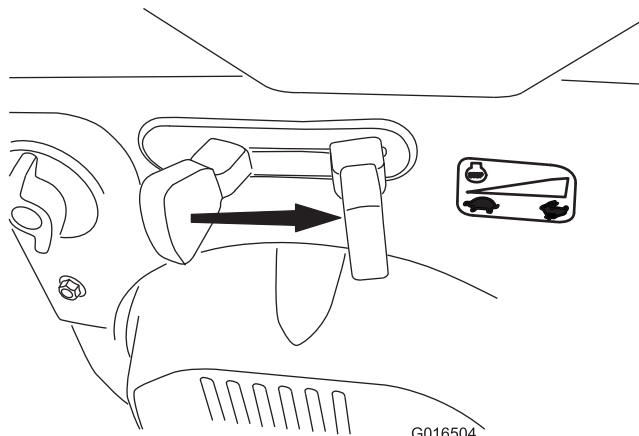

Figure 23
6. Move the throttle to the FAST position (Figure 23).